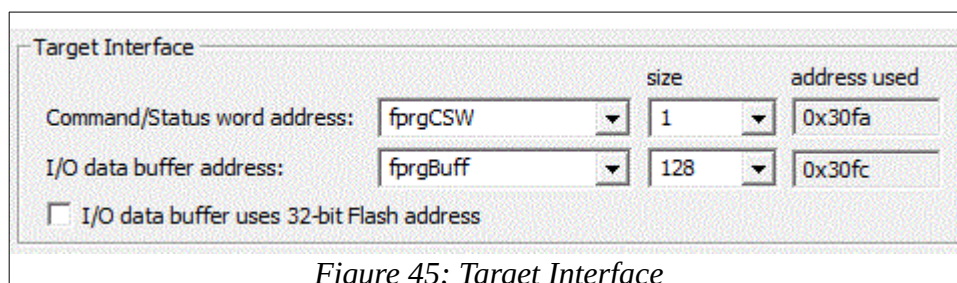
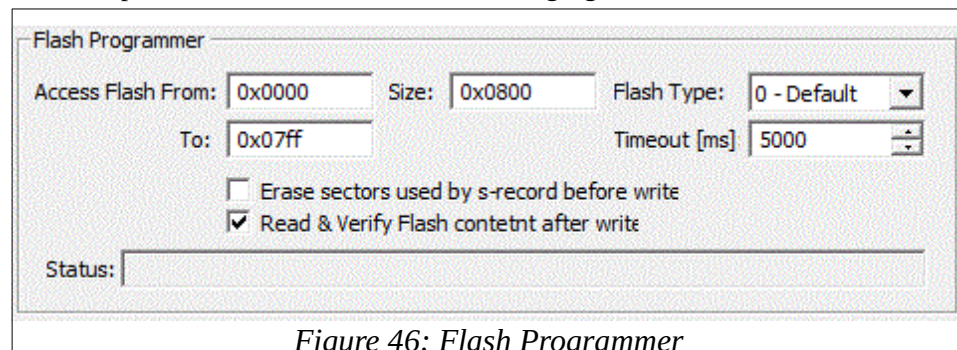

Figure 45: Target Interface
Figure 46: Flash Programmer
2. Make sure the top is all set as in Figure 45 and in the lower part as in the figure 46.